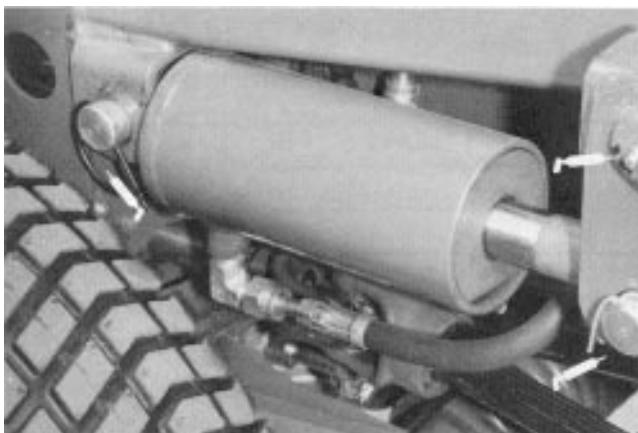
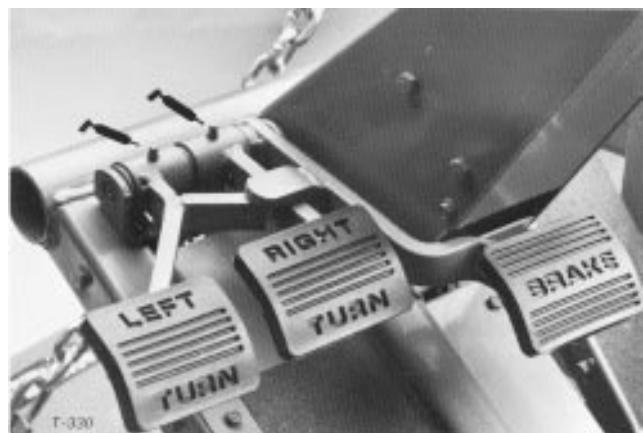

Figure 31
Figure 34
1. The traction unit bearings and bushings that must be lubricated are: PTO shaft and yokes (Fig. 30); lift arm pivots (Fig. 31); right and left push arm ball joints (Fig. 30); push arm pivot bushings (Fig. 32); PTO pivot housing blocks (Fig. 33); brake pivot bushings (Fig. 34); rear wheel spindle bushings (Fig. 35,36); steering plate bushings (Fig. 36); axle pin bushing